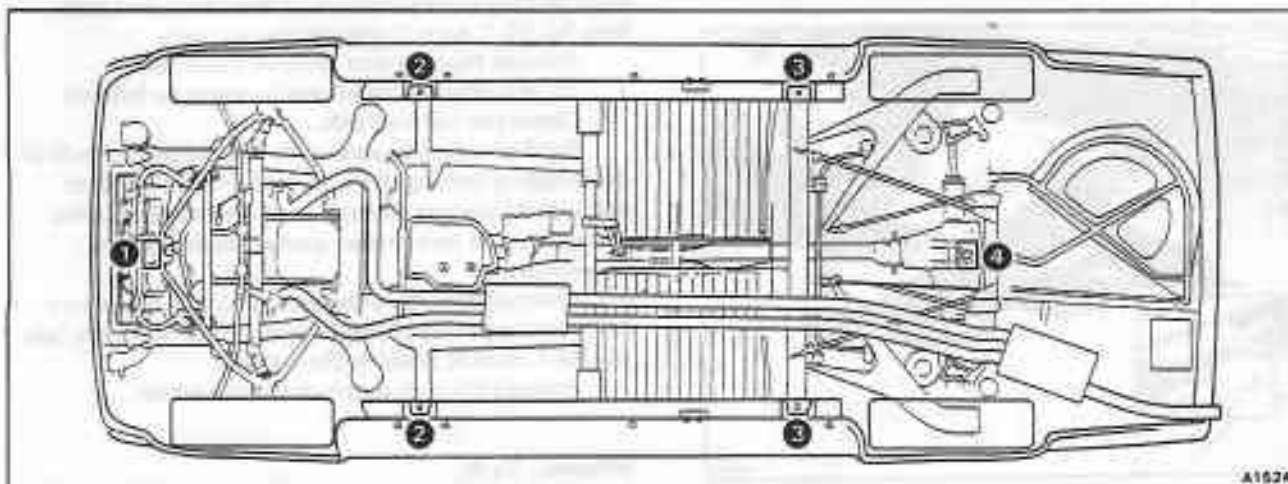
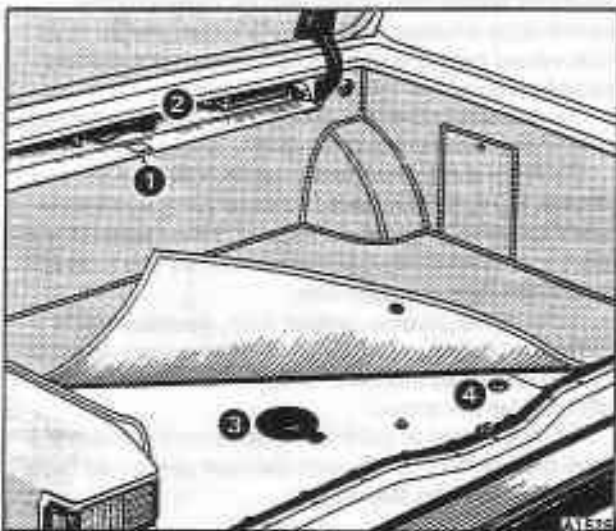

Fig. R2-1 Car jacking positions
Fig. R2-2 Luggage compartment
Refer to figure R2-1 for the car jacking positions. The car jack is stowed behind the trim panel situated at the front of the luggage compartment (see fig. R2-2).
Lockable wheel trim (see fig. R2-4, inset D). Each road wheel incorporates a locking wheel trim, the lock being concealed by a protective cover. A small tool for removing the cover and a key for the wheel trim lock are contained in a pocket on the inside of the tool stowage compartment trim flap (see fig. R2-2).
Position a trolley jack under the front pivot mounting for the lower triangle levers on the sub-frame (see fig. R2-1, item 1). Place a piece of soft wood between the jack head and the mounting.
Alternatively, raise the car using one of the two front jacking points situated on the car underbody (see fig. R2-1, item 2) utilizing the car jack.
Position a trolley jack under the centre of the final drive casing (see fig. R2-1, item 4). Place a piece of soft wood between the jack head and the final drive casing. **Do not jack the car under the final drive crossmember.**
Alternatively, raise the car using one of the two rear jacking points situated on the car underbody (see fig. R2-1, item 3) utilizing the car jack.
1. Remove the rubber access plug situated underneath the luggage compartment floor carpet (see fig. R2-2).
3. Using the wheel nut spanner and bar provided in the tool kit, turn the carrier lowering bolt (see fig. R2-2) anti-clockwise until further rotation is prevented.